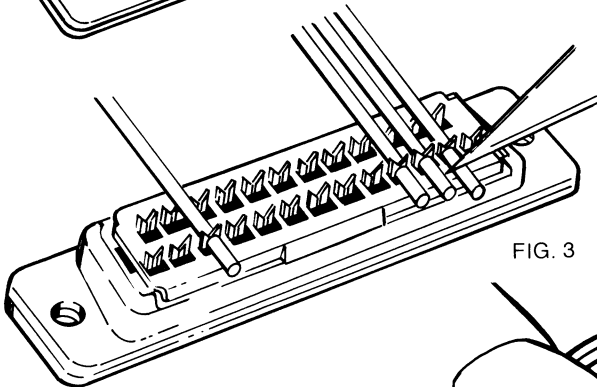

FIG. 3
4. Excessive conductor lengths can be trimmed with a sharp blade against the connector surface. (Figure 3.)